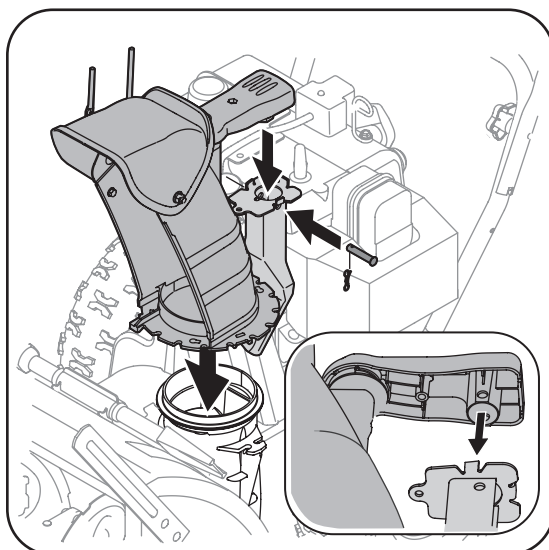

Figure 3
3. a. Insert the round end of the chute control assembly on the short tube of the chute assembly as shown in Figure 3.